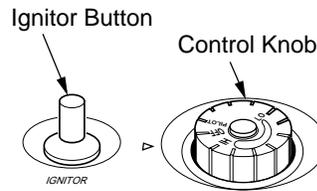

Figure 22 - Control Knob In The OFF Position
3. Turn control knob clockwise  to the OFF position (see Figure 22).
4. Wait five (5) minutes to clear out any gas. Then smell for gas, including near the floor. If you smell gas, **STOP!** Follow "B" in the safety information, page 13, column 2. If you don't smell gas, go to the next step.
5. Turn control knob counterclockwise  to the PILOT position. Press in control knob for five (5) seconds (see Figure 22).
**Note:** If pilot goes out, repeat steps 3 through 7. This heater has a safety interlock system. Wait one (1) minute before lighting pilot again.